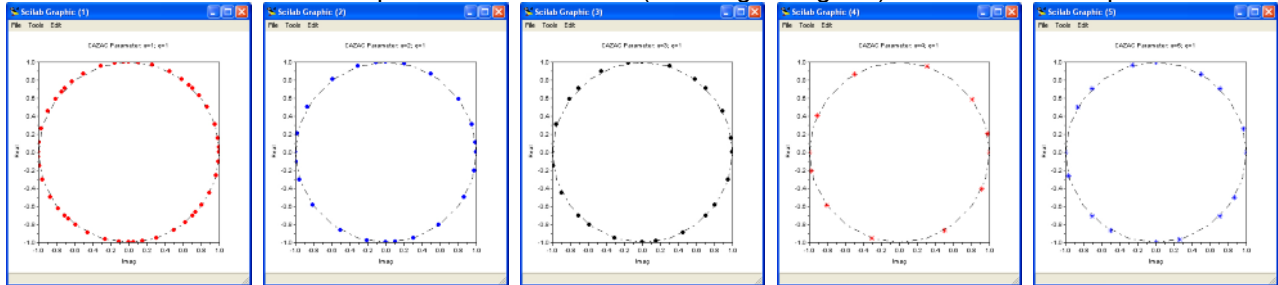

Figure 3-9 Discrete CAZAC points,  $a_u(k)$ , for different parameter sets ( $N=120$ ,  $q=1$ ,  $u=1..5$ ) displayed on unit circles
For illustrating different CAZAC parameters,  $a_u(k)$  is given in Figure 3-9 Discrete CAZAC points,  $a_u(k)$ , for different parameter sets ( $N=120$ ,  $q=1$ ,  $u=1..5$ ) displayed on unit circles. The calculations are done for different values of  $u$  (1..5) while keeping the sequence index  $N$  (120) and CAZAC parameter  $q$  (1) constant.